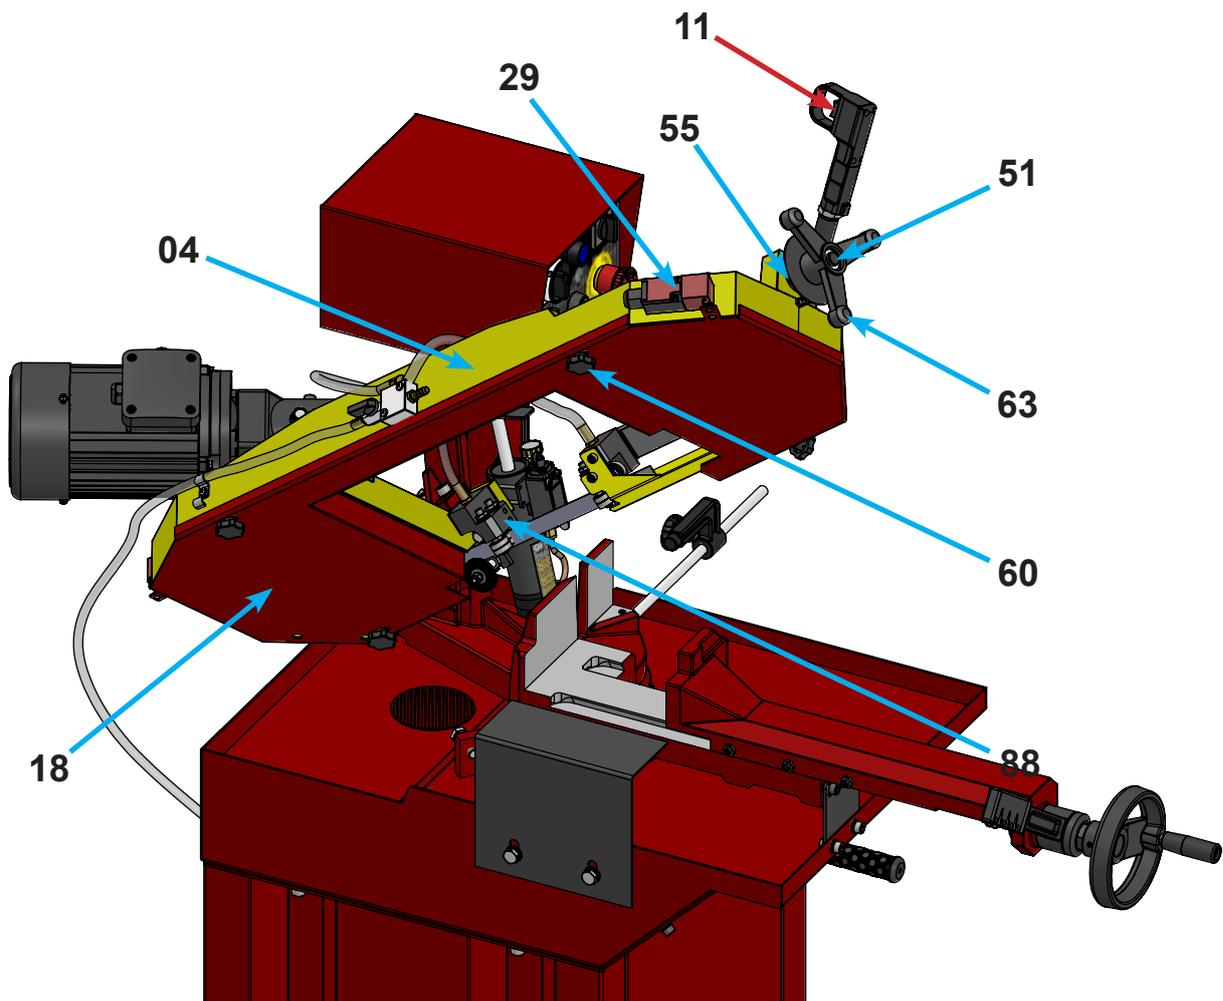

FIGURE 6.6 - TENSIONER SYSTEM
The Band Saw Blade (10) and the Flywheels (13) (14) are protected at the rear of the Bow (04) by a protective Back Cover (18) (figure 6.6).